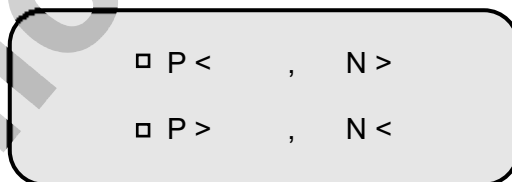

Fig. 12: Invalidity Judgment
- The first type is set as default. If it is equal to the demand, press **Enter** key to go to the sub menu (Fig. 12). **C.O.** is the abbreviation for Cut-off value;
- If the reagent prescribes the second method, press  $\blacktriangle$  to make the symbol in front of **S** become  $\bullet$  and press **Enter** key. Then select the second judgment method by the key of  $\blacktriangledown$  and press **Enter** key to confirm. Press **Enter** key again to enter the interface of invalidity judgment (Fig. 12).